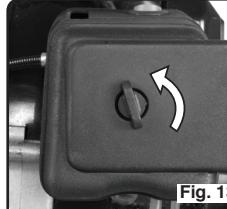

Fig. 13
2. Remove the screw securing the air filter cover. (Fig 13)